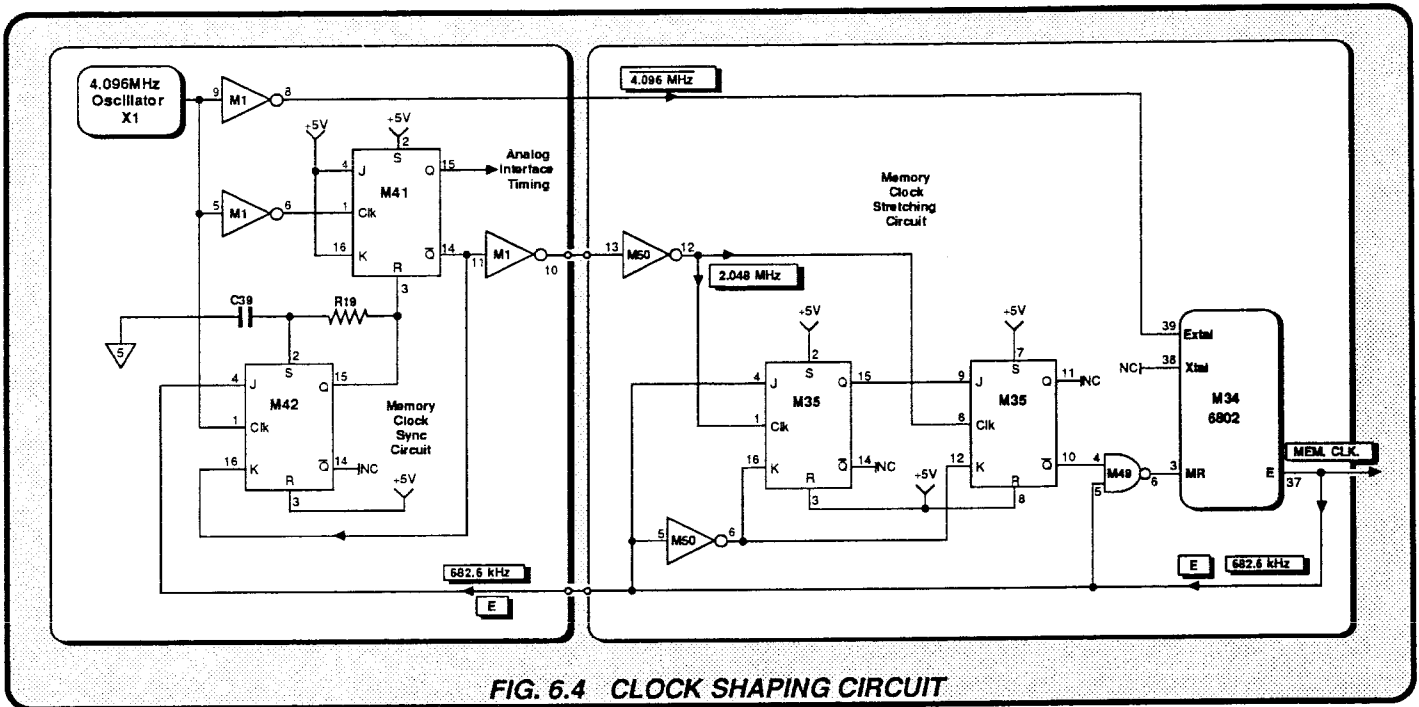

FIG. 6.4 CLOCK SHAPING CIRCUIT
**NB** As the circuit locations in Fig 6.4 are clearly marked, and as there are no duplicate designators in the circuits, this description does not refer to a component's location except where necessary.
If M34-3 (MR-Memory Ready) were permanently held at +5V, the E signal would be 1.024MHz. But in the 4708, a 'stretching' circuit (M35/M49) doubles the Logic High (+5V) time of E by switching MR to Logic Low (0V) for part of the cycle. This is shown on Fig.6.4.
(Fig. 6.4)
### 6.1.7.2 Shaping Action (Figs. 6.4 and 6.5)